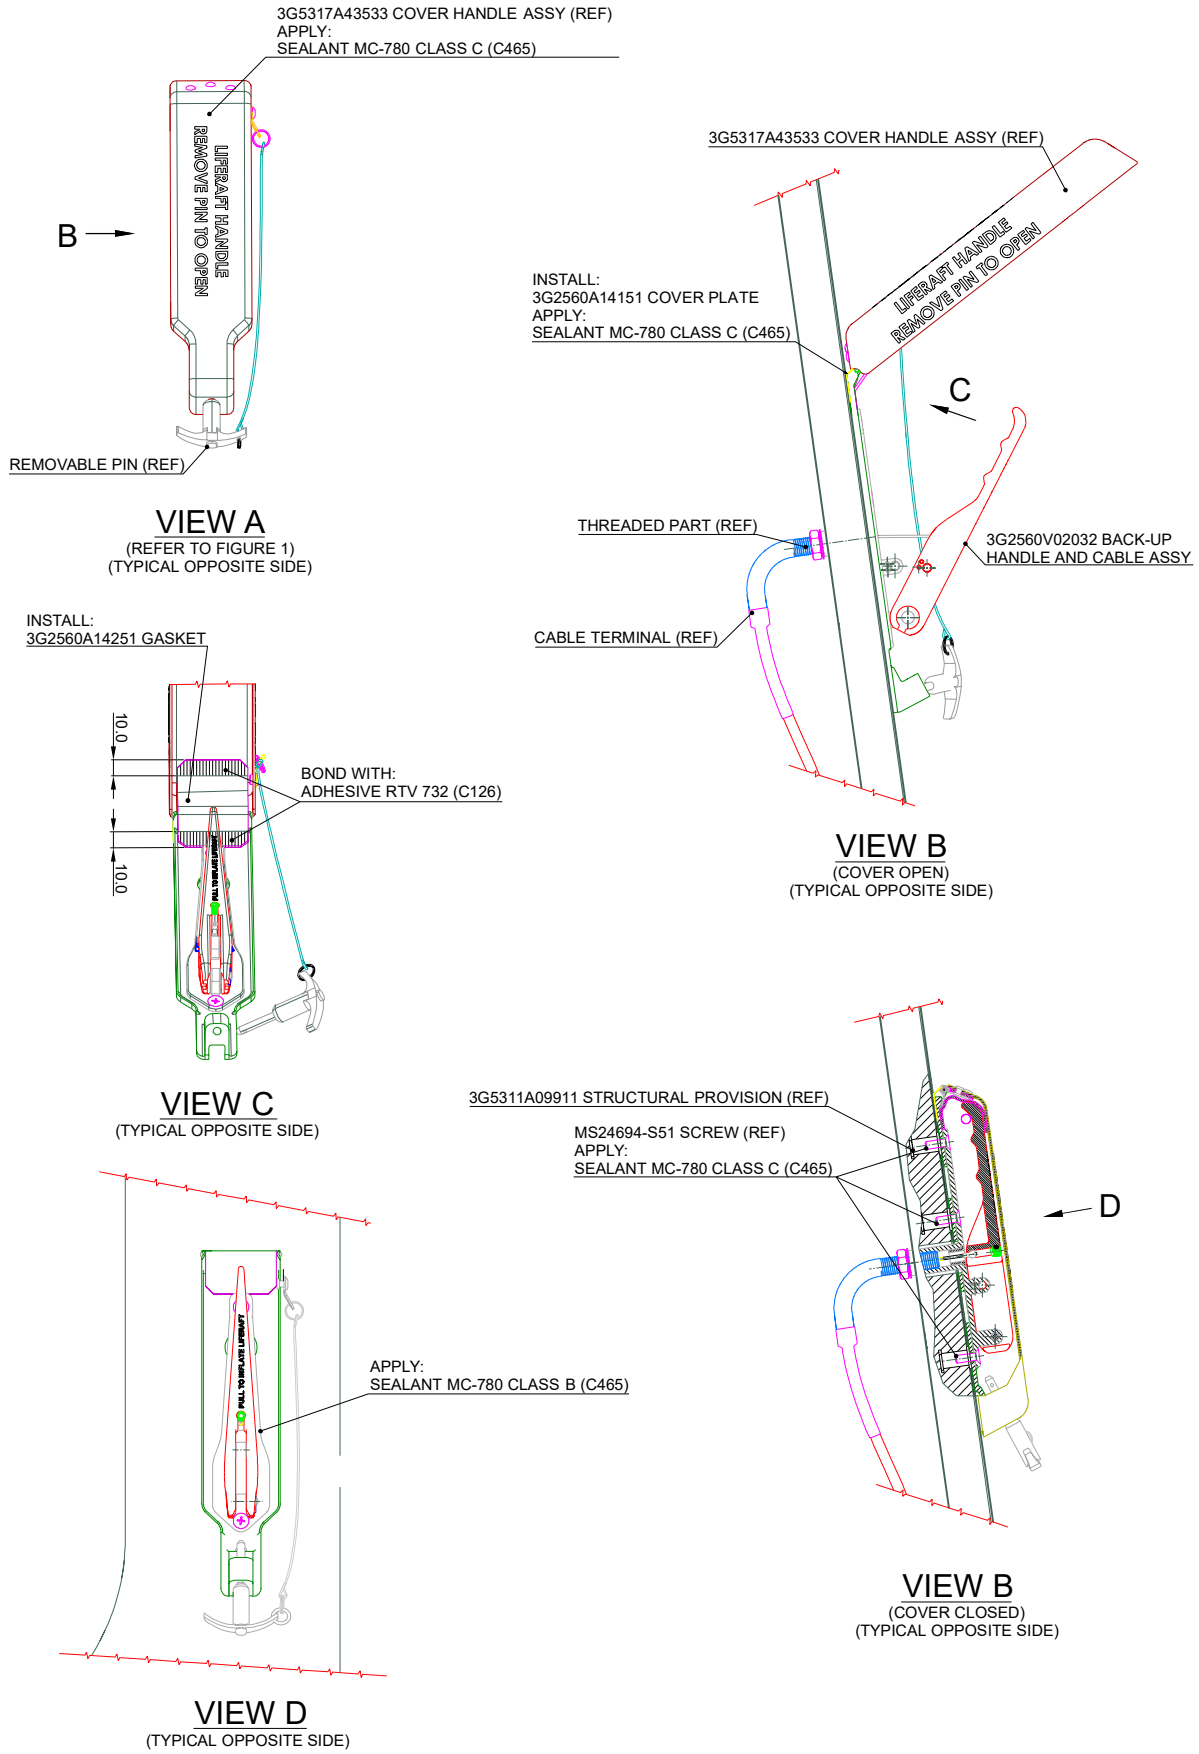

Figure 2
- 3.1 In accordance with applicable steps of AMP DM 39-E-25-62-05-00A-921A-K and with reference to Figure 2 View B, temporarily remove the n°2 cover handle assemblies P/N 3G5317A43533 from the helicopter skin.
- 3.2 With reference to Figure 2 View B, install n°2 cover plates P/N 3G2560A14151 on the helicopter skin by means of sealant MC-780 CLASS C (C465).
- 3.3 In accordance with applicable steps of AMP DM 39-E-25-62-05-00A-921A-K and with reference to Figure 2 View A and View B, reinstall the n°2 cover handle assemblies P/N 3G5317A43533 previously removed on the helicopter skin. Wet assemble the screws P/N MS24694-S51 by means of sealant MC-780 CLASS C (C465).
- 3.4 With reference to Figure 2 View D, seal all the external perimeter of the back-up handle and cable assemblies P/N 3G2560V02032 with a fillet of sealant MC-780 class B (C465).
- 3.5 With reference to Figure 2 View C, install n°2 gaskets P/N 3G2560A14251 on the n°2 cover handle assemblies P/N 3G5317A43533 by means of adhesive RTV 732 (C126).